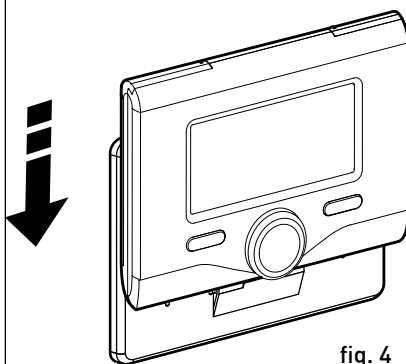

fig. 4
- position the system interface on the base, pushing it gently downwards (fig. 4).